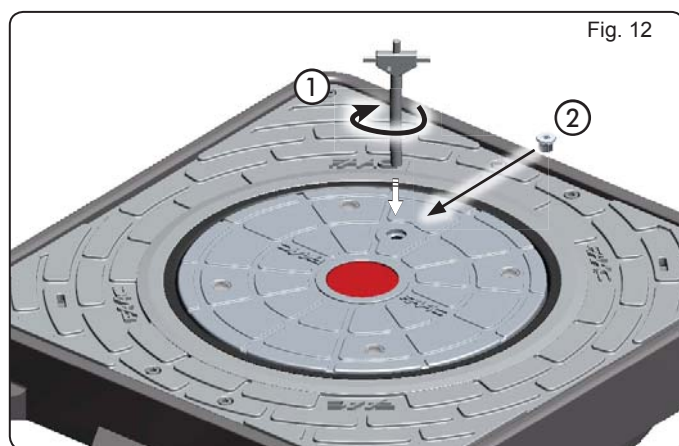

Fig. 12
2. Turn clockwise till end of stroke (fig. 12 ref. ①).
3. Tighten again the closing screw on the bollard head (fig. 12 ref. ②).